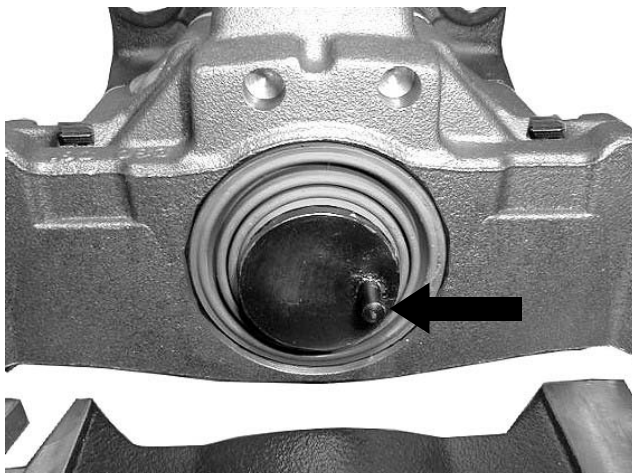

Fig. 17
When re-adjusting push back the spreader plate (19) by hand to ensure that the pin as torsion lock (fig. 17) for the adjusting screw does not slip out of its groove.
- Prevent the adjuster screw from turning during the test and while rotating on the adjuster hexagon by e.g. holding the pin (fig. 17).
- Extend the adjuster (22) towards the brake disc by turning the adjuster hexagon anti-clockwise with a ring spanner and check for ease of movement.